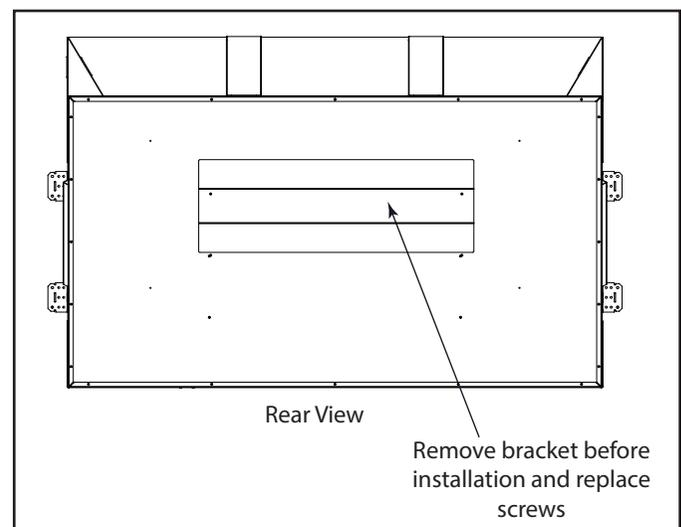

Figure 2.1 Bracket Removal
- **NOTE: Remove rear packaging bracket before installing unit. See Figure 2.1.**